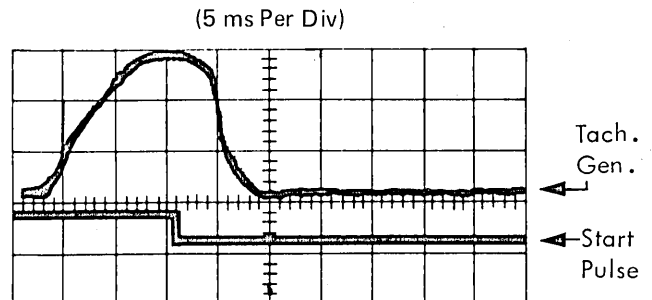

Figure 1-58. Triple-Space Singleshot
2. Sync on start pulse (Figure 1-58).